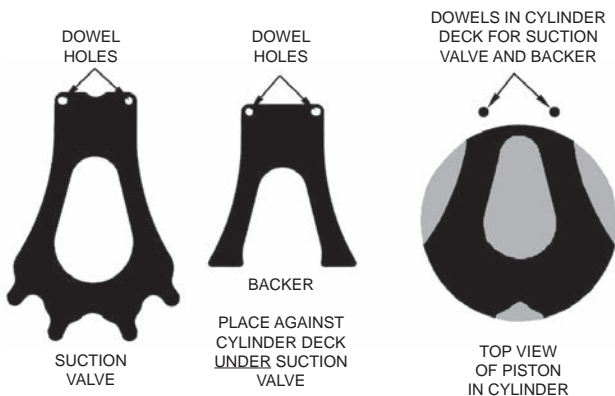

Fig. 6 — Piston, Suction Valve, and Backer Positions (06E)
- b. 06E Compressors: If compressor uses a suction valve and a backer valve (looks like half a suction valve), backer valve must be installed before installing full size suction valve (Fig. 6).